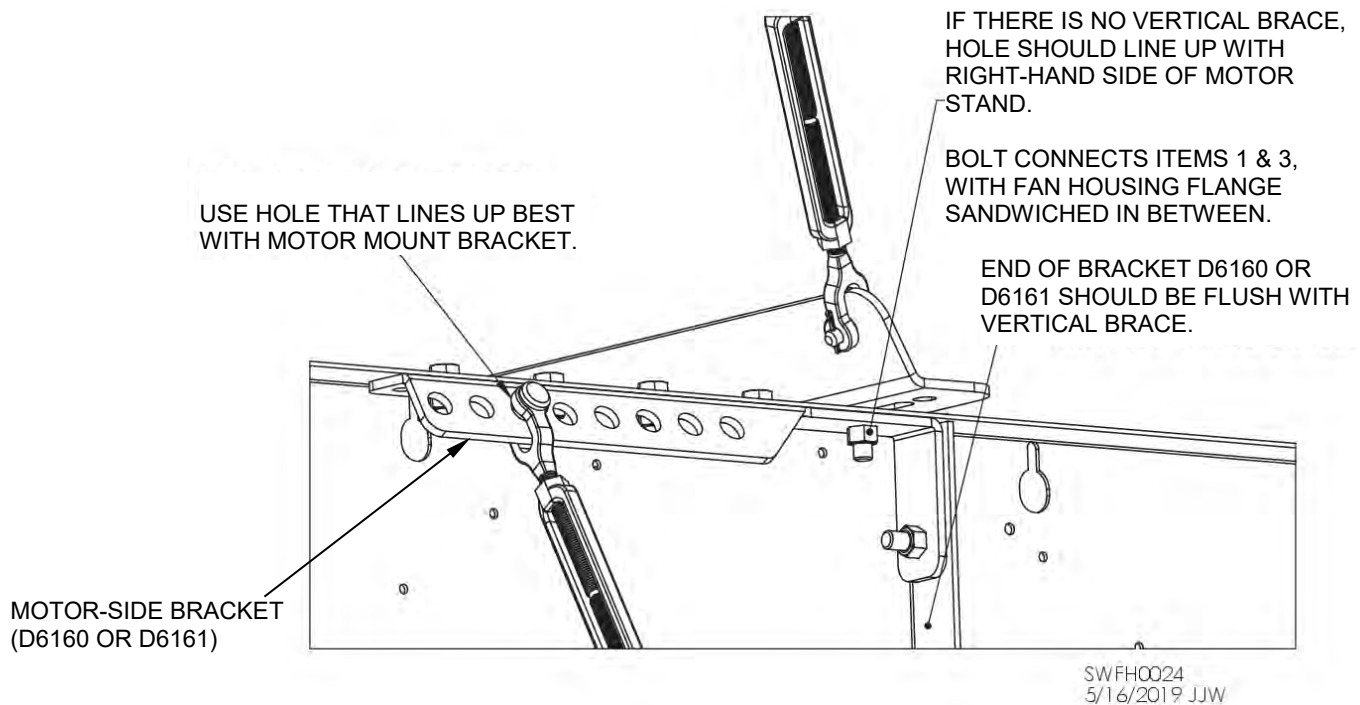

Fig. 6 – Positioning left (motor-side) bracket & motor mount turnbuckle
1. Attach fan brackets (Items 1, 3 & 6) to fan housing. Use 1/2-13 x 1-1/2" bolts and 1/2" lock nuts. Start by field-drilling 9/16" holes as needed, using brackets as drill guides. Loosely bolt motor-side bracket (Item 1), to vertical brace on side of fan housing as shown in Fig. 6. If there is no vertical brace, line up bolt hole at far right of motor-side bracket with right-hand side of motor stand. Hole will also be used for bolt connecting top fan bracket (Item 3) to fan housing. See Fig. 6. Position top fan bracket on fan and use as a drilling guide for common hole on intake side. Loosely bolt intake-side bracket (Item 6) to fan housing and top bracket. Use Items 1 and 6 as guides to drill other attachment holes in flanges of fan housing. Attach with 1/2" hardware. Tighten all other fan bracket attachment bolts.